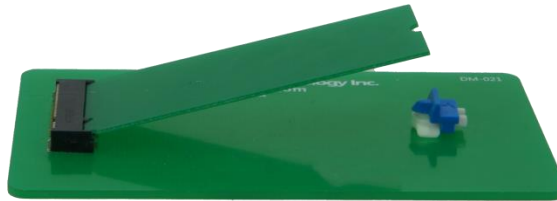

Figure 3-7: Inserting the M.2 Module into the Slot at an Angle
Step 4: Line up the notch on the M.2 module with the notch on the slot. Slide the M.2 module into the socket at an angle of about 20° (**Figure 3-7**).